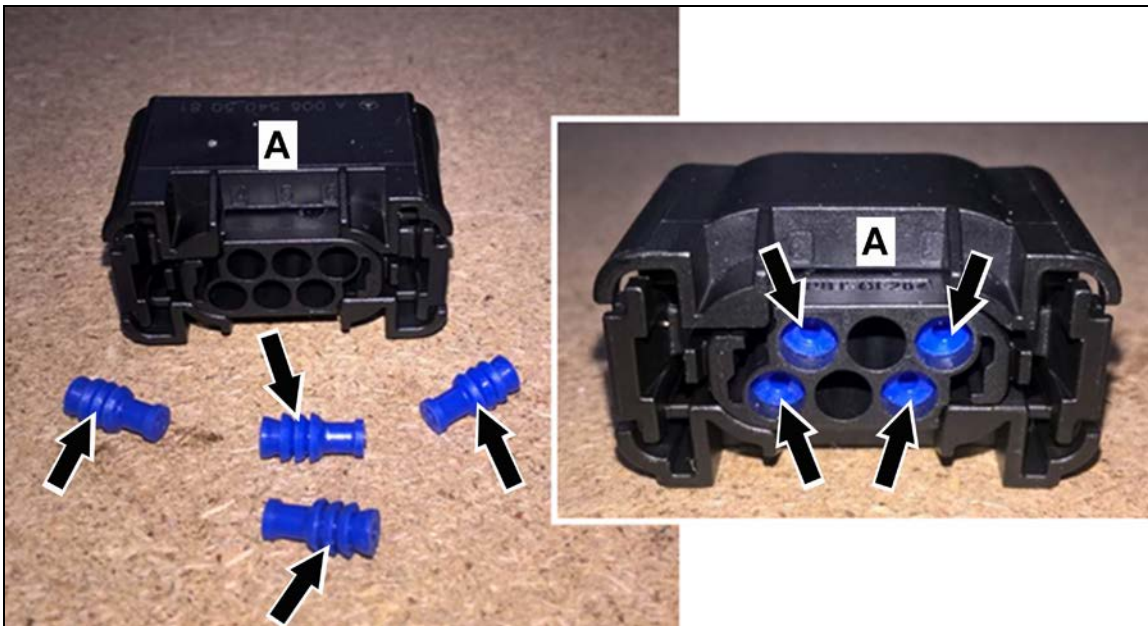

Figure 6
8. Install blind plugs (arrows, Figure 6) into slots 1, 3, 4 and 6 of **new** plug housing (A).